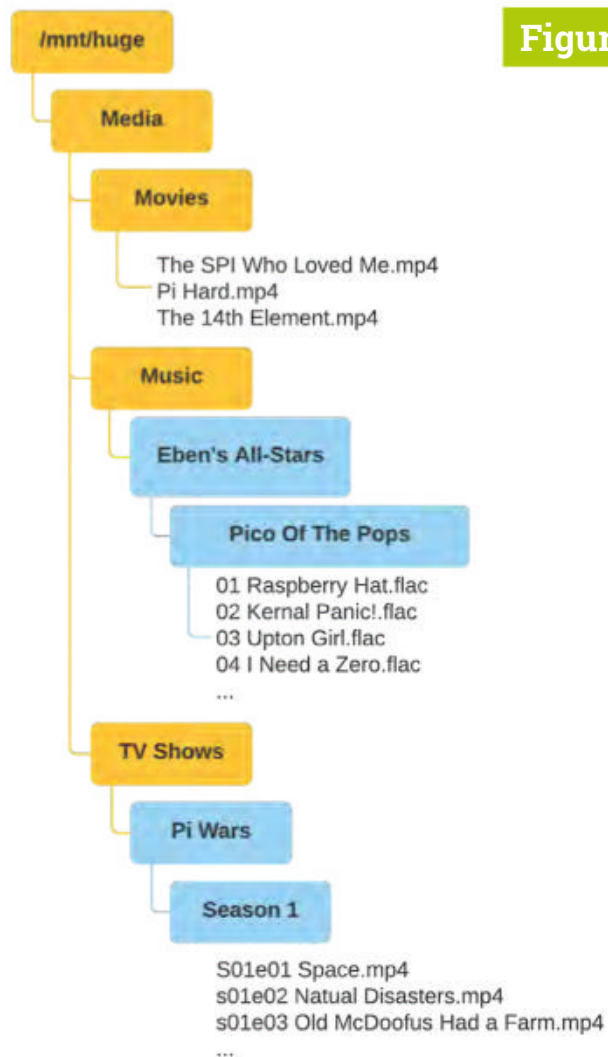

Figure 1
all your media. How you do this is up to you, but when it comes to ripping CDs, many encoders such as abcde (A Better CD Encoder, [magpi.cc/abcde](http://magpi.cc/abcde)) will automatically rip to a given structure, so it can be helpful to plan this out now. See **Figure 1** for an example of a well-laid-out file structure. Don't feel that you have to follow this – if you would prefer more complex (or simple!) divisions, that's completely up to you.
► **Figure 1** Here's an example of a sensible directory structure for your media files. Remember to create it on your external mounted drive